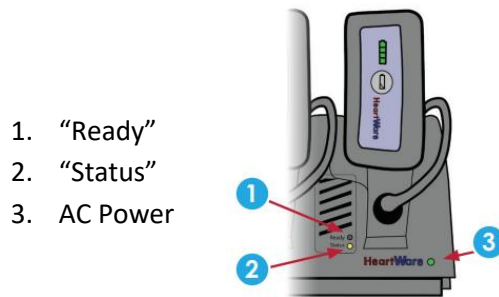

Figure 1. Battery Charger Indicators
- **Follow the instructions in your Patient Manual for proper battery management.** When you connect a battery to the controller, make sure the battery capacity display lights up and the battery indicator lights on the controller light up. **Do not use the battery if the indicator lights do not light up.** When using the battery charger, if the status light flashes red or yellow (figure 1), please follow the troubleshooting steps outlined in section 3.6 your patient manual.